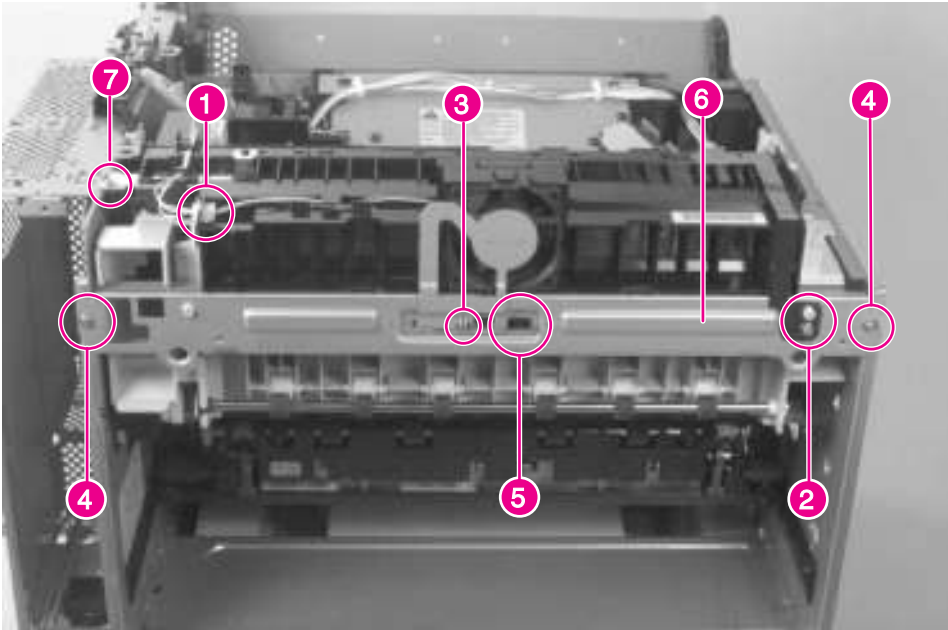

Figure 6-12 **Delivery Unit (1 of 2)**
- 2** Unplug and re-route the fan cable out of the way (figure 6-12, callout 1).
- 3** Remove 1 screw (figure 6-12, callout 2) to loosen the grounding strip.
- 4** Remove 1 screw (figure 6-12, callout 3), and remove the metal fan shield.
- 5** Open the Diverter Assembly access door, remove 2 screws (figure 6-12, callout 4), release the plastic retaining tabs (figure 6-12, callout 5), and remove the metal mounting bracket (figure 6-12, callout 6).
- 6** Remove 2 screws (figure 6-12, callout 5) and 1 screw (figure 6-12, callout 7)
- 3** Replace the metal mounting bracket (figure 6-12, callout 6) before replacing the Delivery Unit screws. Make sure that the plastic clips (figure 6-12, callout 5) are snapped into place before tightening the mounting screws (figure 6-12, callout 4).